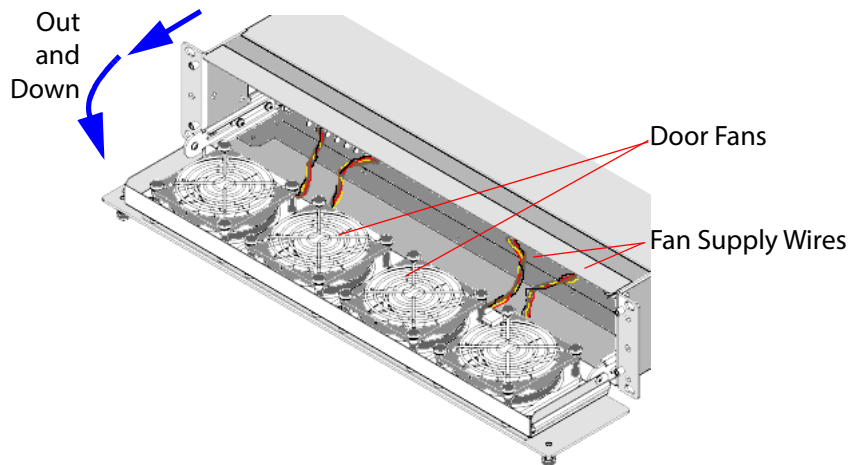

Fig. 2-4: MV-821 Multiviewer - Front Door Open, Hinged Down
- 2 Pull the door outwards about 2 cm and then down. The door hinges along its bottom edge. See Figure 2-4. When the door is open, the door fans and the fan supply wires are visible.